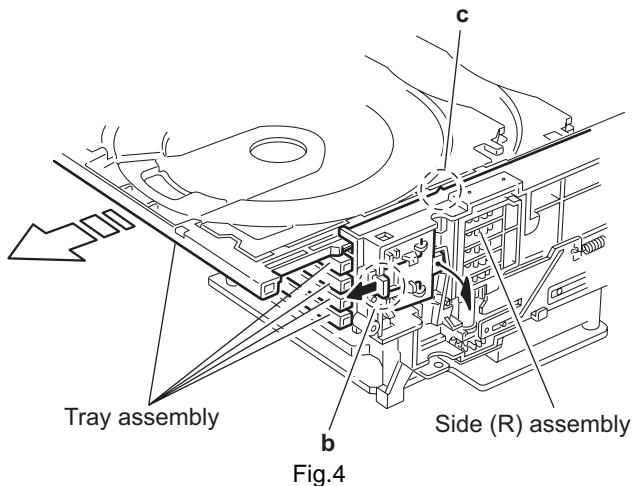

Fig.4
- (4) From the right side of the DVD changer mechanism assembly, draw out the tray assemblies toward the front while pushing the part b of the side (R) assembly. (See Fig.4.)
- (5) From the topside of the DVD changer mechanism assembly, move the stopper tabs c in the direction of the arrow and release them. Pull out the tray assemblies from the DVD changer mechanism assembly. (See Figs.4 and 5.)